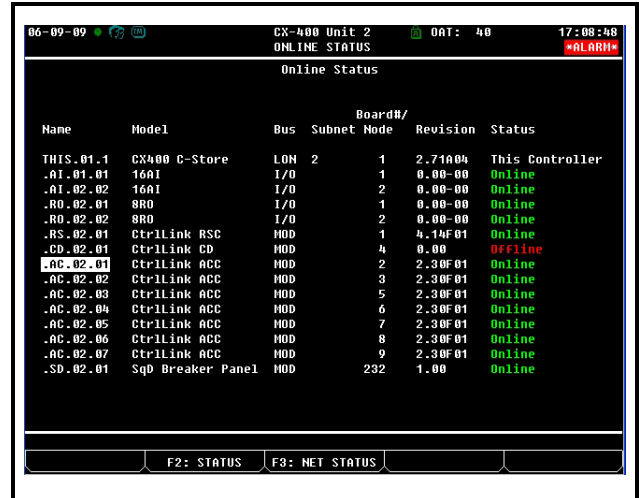

Figure 7-6 - Online Status Screen
- When finished, press **Enter** to return to the Network Setup menu, then press **1** - **Online Status** (Figure 7-6). Locate the Control Link ACCs you set up, and look at each device's status in the **Status** field. You will see one of the following messages: